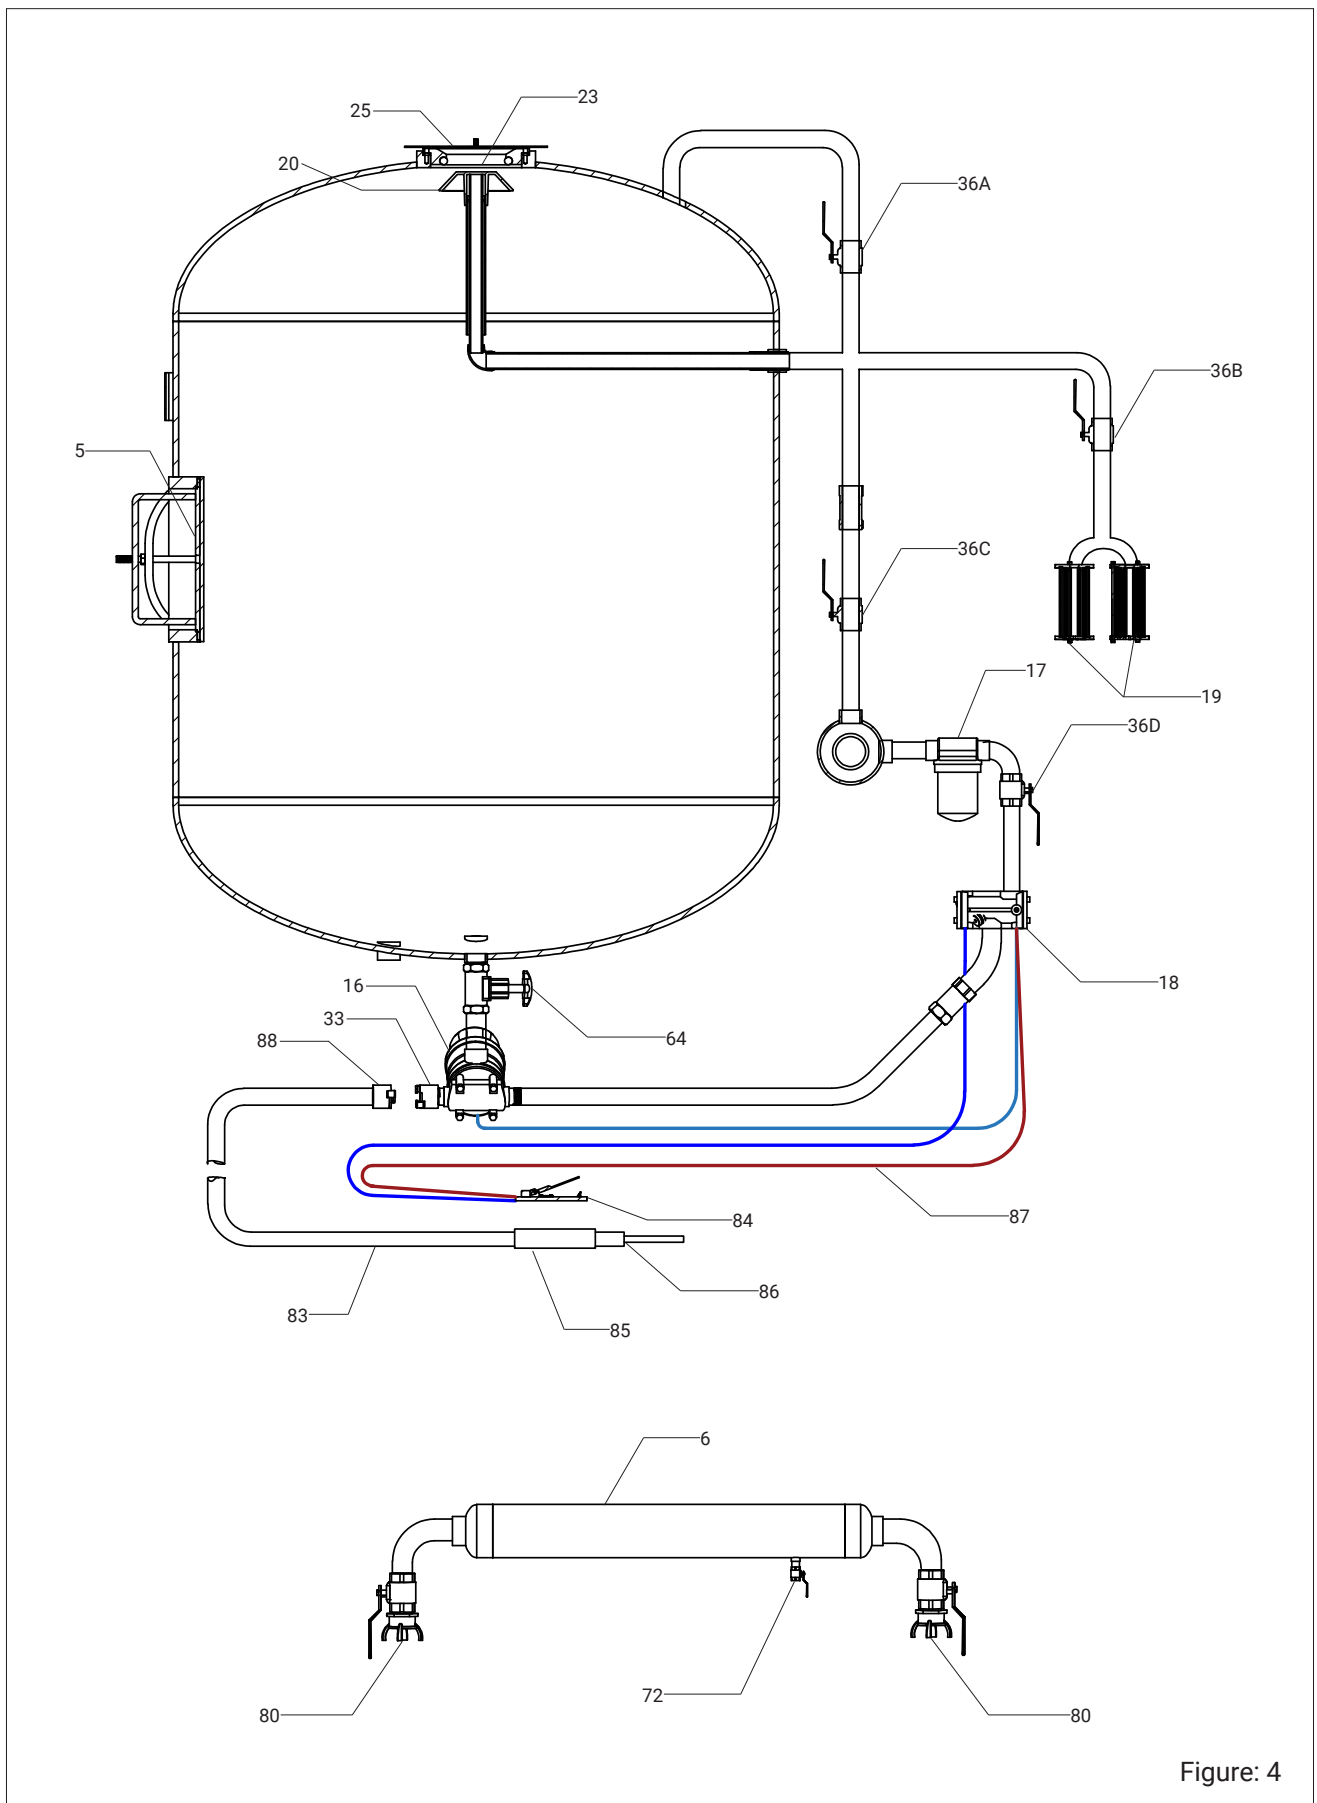

Figure: 4
Figure 4 shows the major components of the Jumbo blaster:
When the Jumbo Blaster is connected (connections see figure 4, item 80) to an air supply (compressor), the pop-up valve (item 20) seals off the filling port with the pop-up gasket (item 23), and the tank filled with abrasive is pressurized. During the working session, the tank remains pressurized. It is only depressurized at the end of the work period.
7.2.1 Pneumatic remote controls (see figure 4)